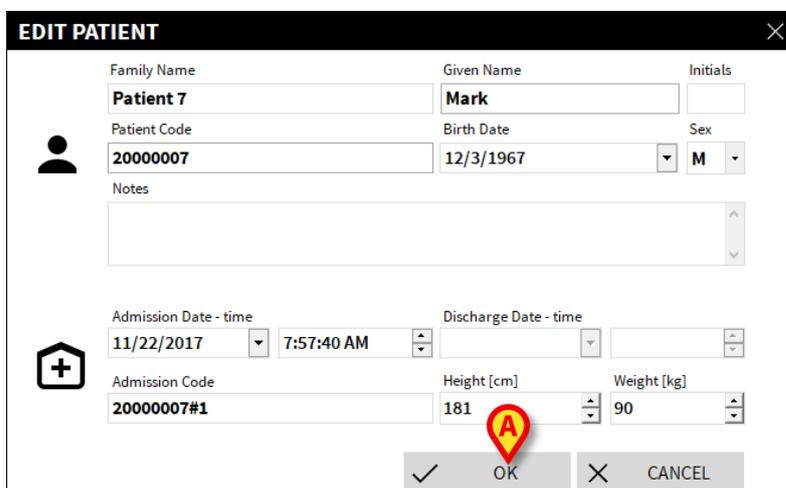

Fig 121
A window containing the patient's data opens (Fig 121).
- Click **Ok** to confirm (Fig 121 **A**).